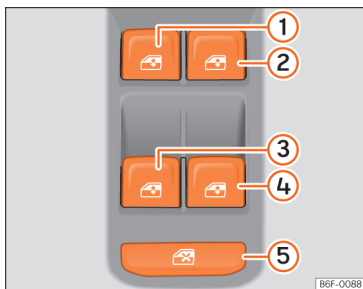

Fig. 84 Detail of the driver door: controls for the windows.
The safety control >>> **Fig. 84** ⑤ on the driver door can be used to disable the electric window buttons on the rear doors.